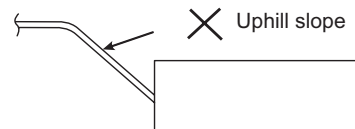

Fig. 2-61
- Do not install the pipe with an upward gradient from the connection port. This will cause the drain water to flow backward and leak when the unit is not operating. (Fig. 2-61)